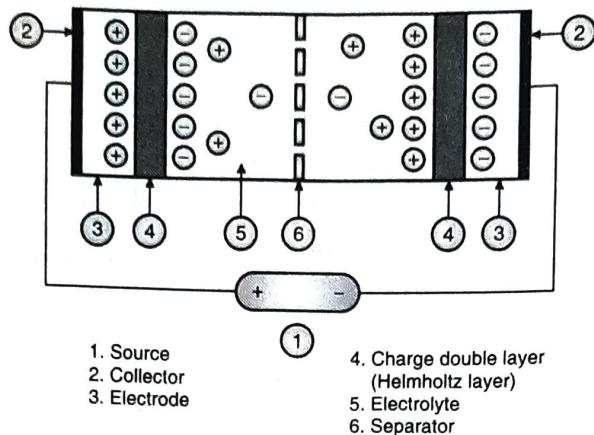

Fig. 5.10.2
- (1) Double layered capacitance
- (2) Electro chemical pseudo capacitance
- This can be further explained by stating that it consists of two electrodes separated by an ion permeable membrane which acts as the layer separator of electrolyte having positive and negative ions. When voltage is applied to the electrodes, polarization takes place. Ions in the electrolyte form an electric double layer as shown in the Fig. 5.10.2. Positive terminal will have negative ions from electrolyte forming a layer, and similarly electrode connected to negative terminal will have positive ions from electrolyte.
- As shown in the Fig. 5.10.2, there are two capacitors formed at each end by accumulation of charges.